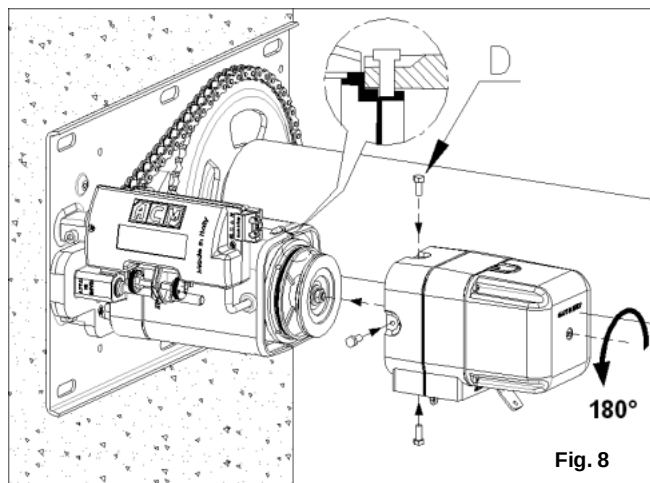

Fig. 8
The gearmotor provided is configured for installation to the right of the shutter seen from inside. However the system is arranged to be installed on both right and left as shown in Fig. 8 and 9. After fixing the winding shaft, assemble the motor on the bracket transmission by matching the three pins with the respective locations of the gear unit (see Figure 4). At this point push the stop bracket on the engine, fitting the trap hex drive shaft in the seat of the toothed pinion. Tighten the gear motor using the three M10 nuts.
EN - For the configuration on the left of the gear motor, proceed as follows: Unscrew the 4 screws (D) shown in Figure 8 to release the electric brake assembly. Rotate the brake assembly 180 ° rotation in such a way that the chain, used for the manual operation, is facing perpendicularly downward. At this point push the brake assembly to overcome the resistance of the internal spring and proceed to tighten the 4 screws that were previously loosened. **Caution:** verify that the 4 screws fit properly into the groove of the electric motor as shown in the Figure 8 detail. This operation is essential for the proper functioning of the electric brake assembly.